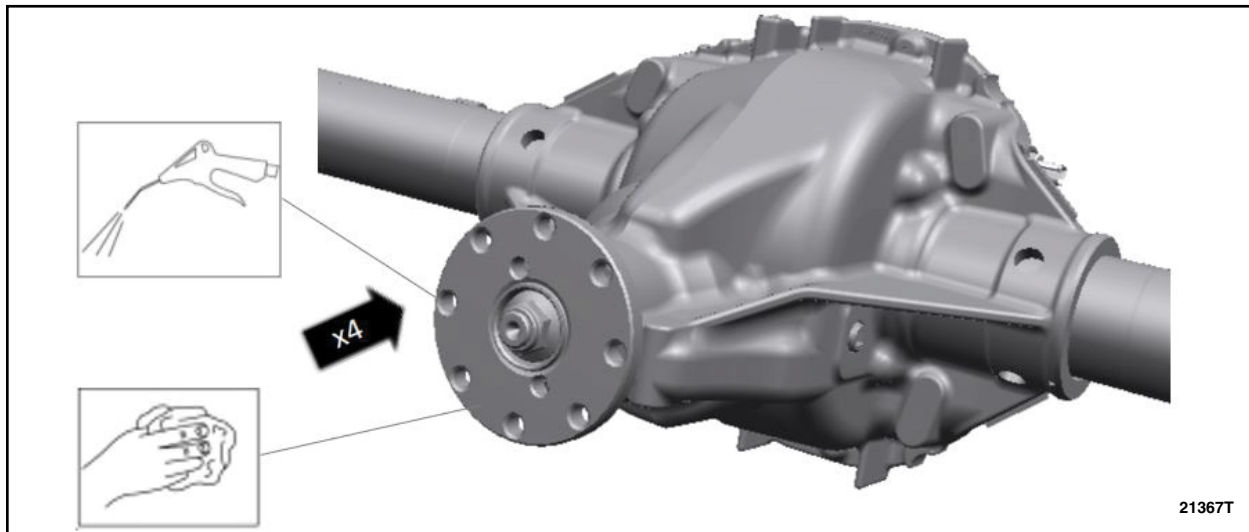

FIGURE 10
14. Using an air blow gun, remove any debris from threaded holes in axle flange. See Figure 10.